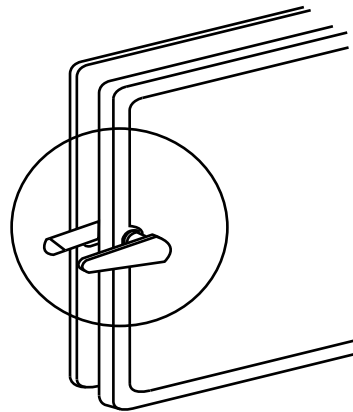

Fig. 12A
4. Then to open door, turn the handle counter clockwise to the 9 o'clock position and then continue to pull the door open. (Fig. 12A)